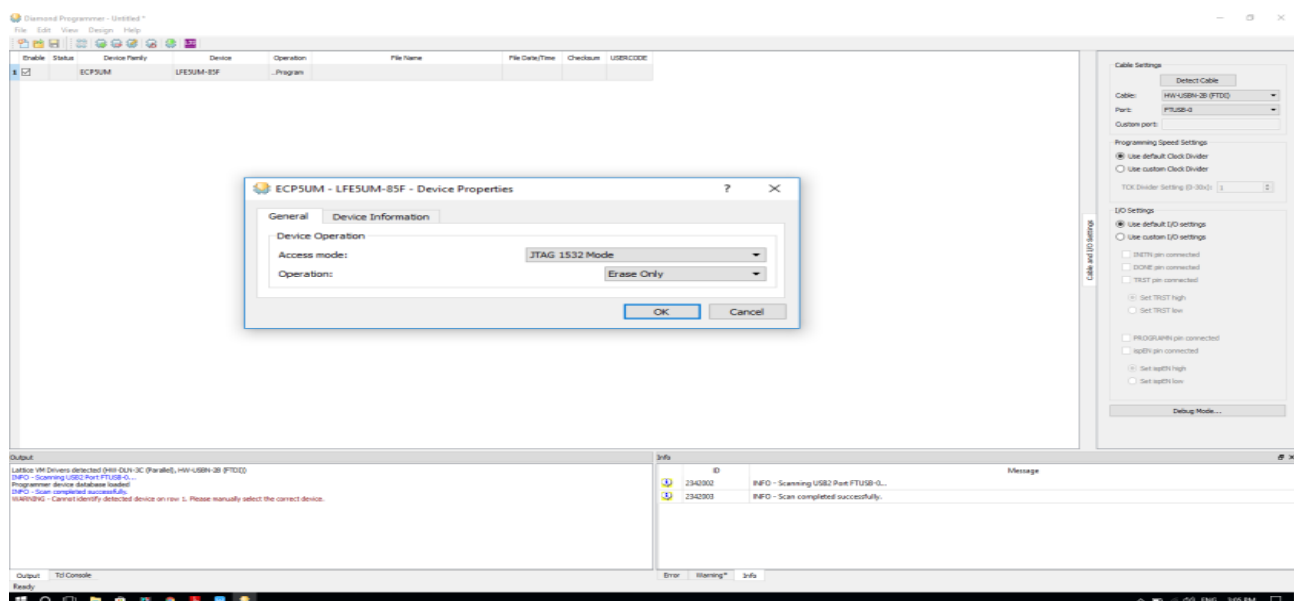

Figure 8: Select JTAG option and bit file
4. Click operation tab and select the Access mode options as JTAG 1532 mode; and for Operation select "Erase Only" for the Erase the bit file in the FPGA, as shown in Figure 8.